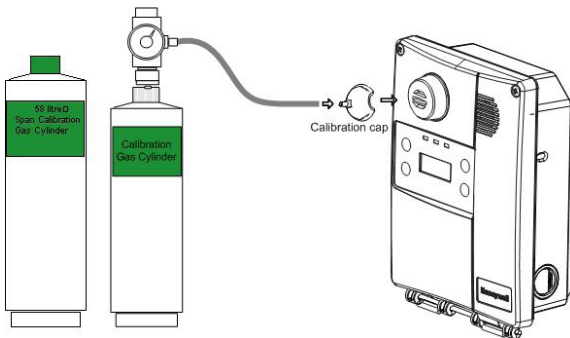

Figure 4. Calibration Installation
- Connect the tubing from the regulator to the sensor calibration cap as shown in Figure 4.
- Connect the tubing from the regulator to the sensor calibration cap. See Figure 4.